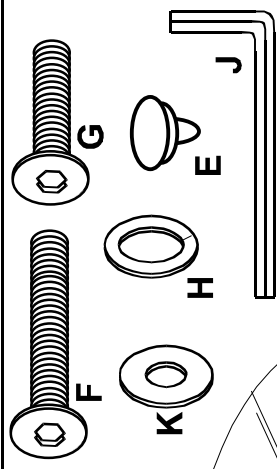

FIGURE 1
Fasten each Leg (C) to bottom of Table Frame (A) using 3 Long Allen Bolts (F), 3 Spring Washers (H) and 3 Metal Washers (K) per Leg. See figure 1 & 3.